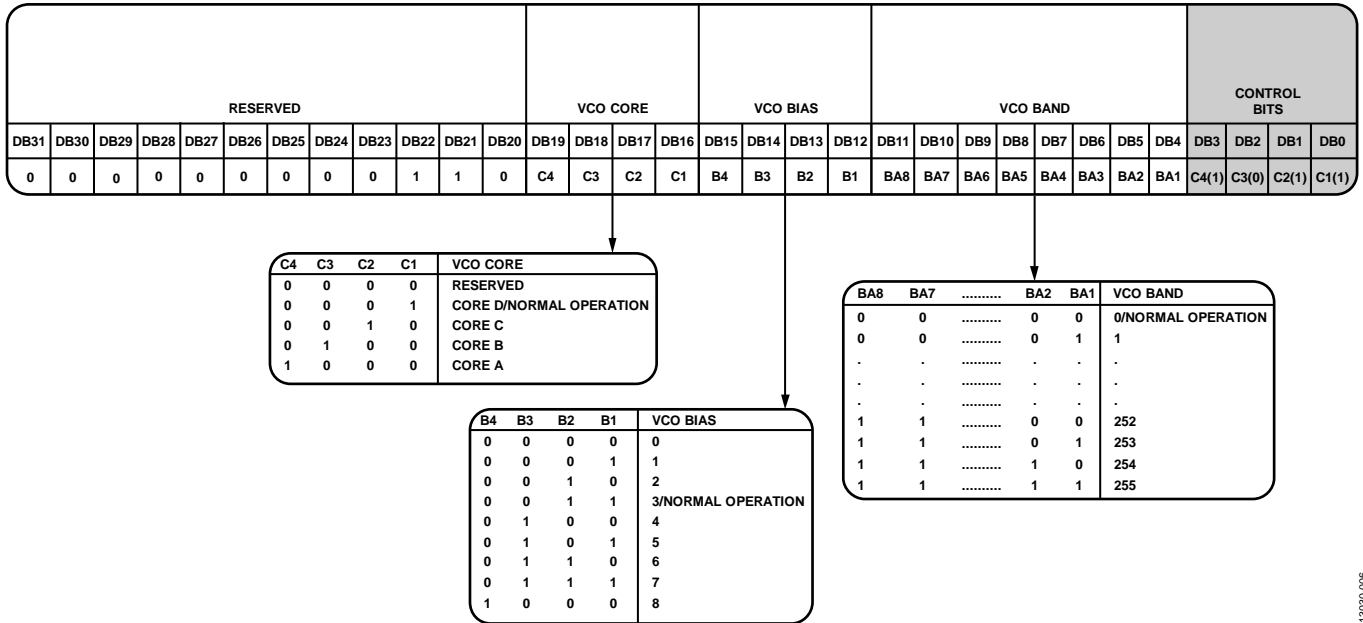

Figure 8. Register 11 (ADF4355-2, ADF4355 and ADF5355)
3. Load R11 with VCO core, band, and bias code set as defined in Figure 8. Note VCO core bits are different for read and write.